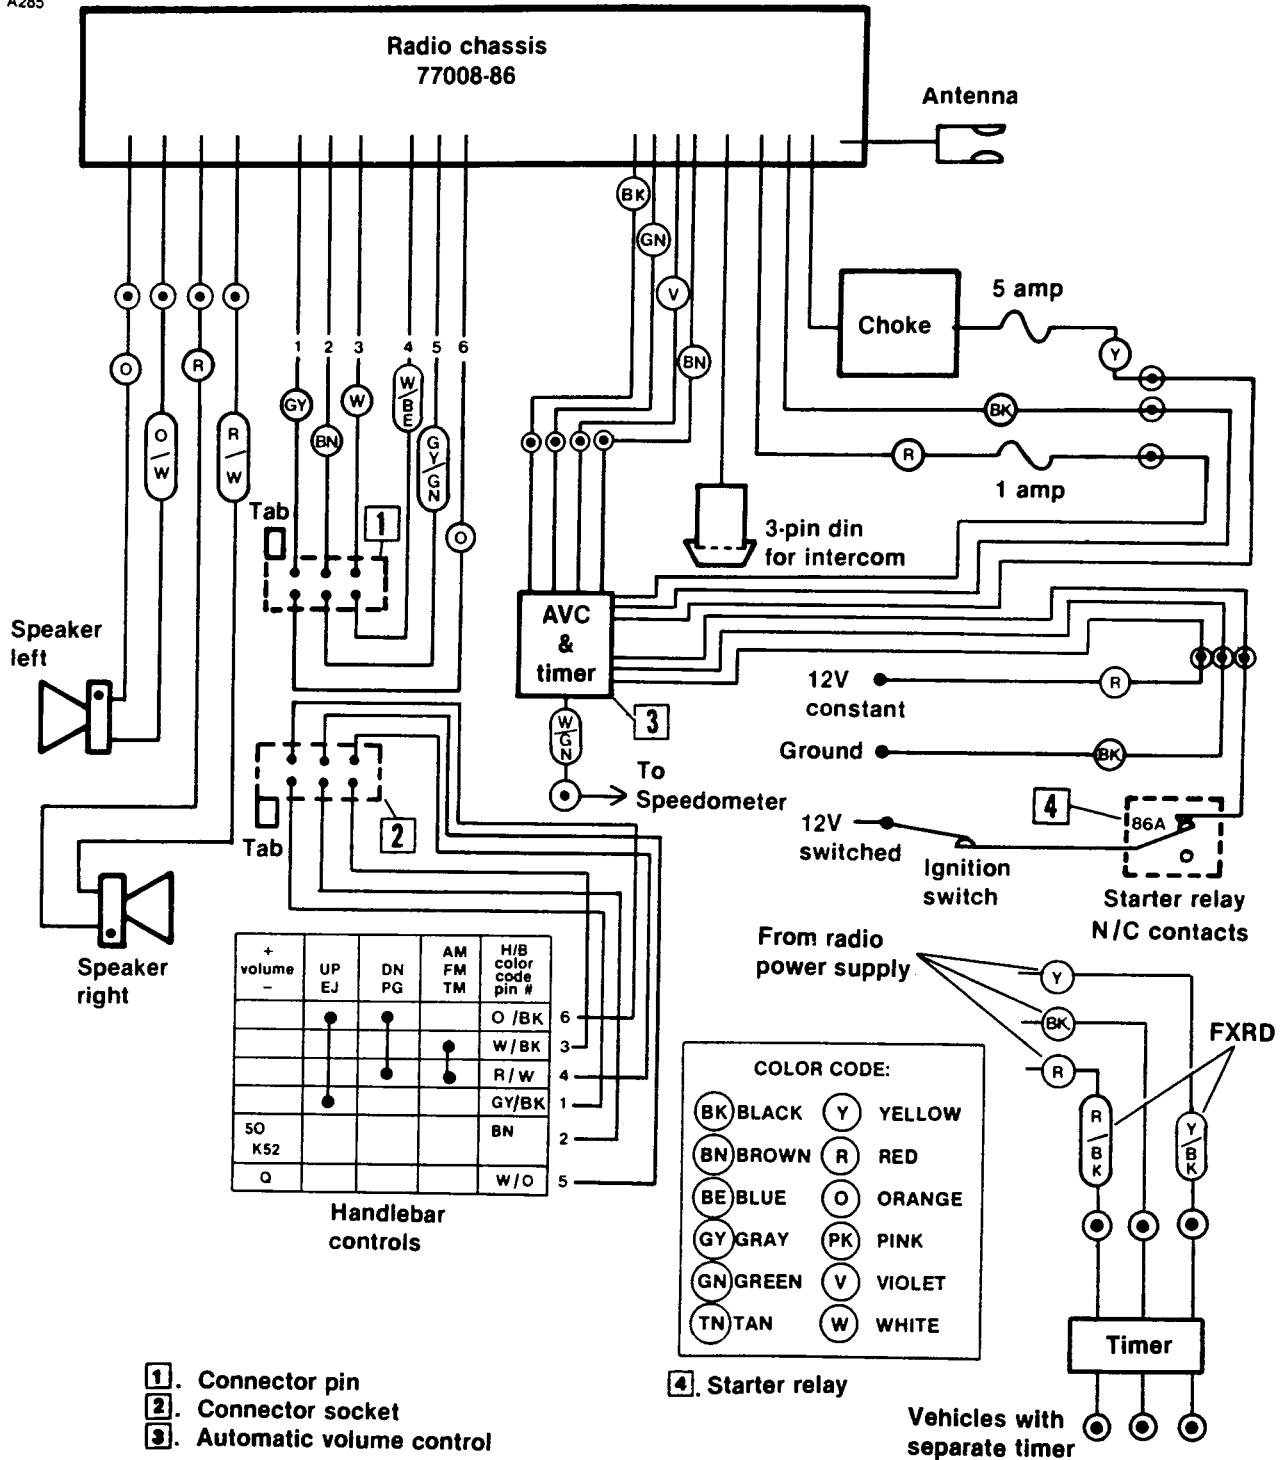

Figure 1. Wiring Diagram
5. See Figure 1. Move radio connectors from behind crossbars. Separate connector halves.
3. Refer to Figure 1. Turn the handlebars to extreme left. Disconnect the six pin connector (remote handlebar controls) and remove connector from retainer.